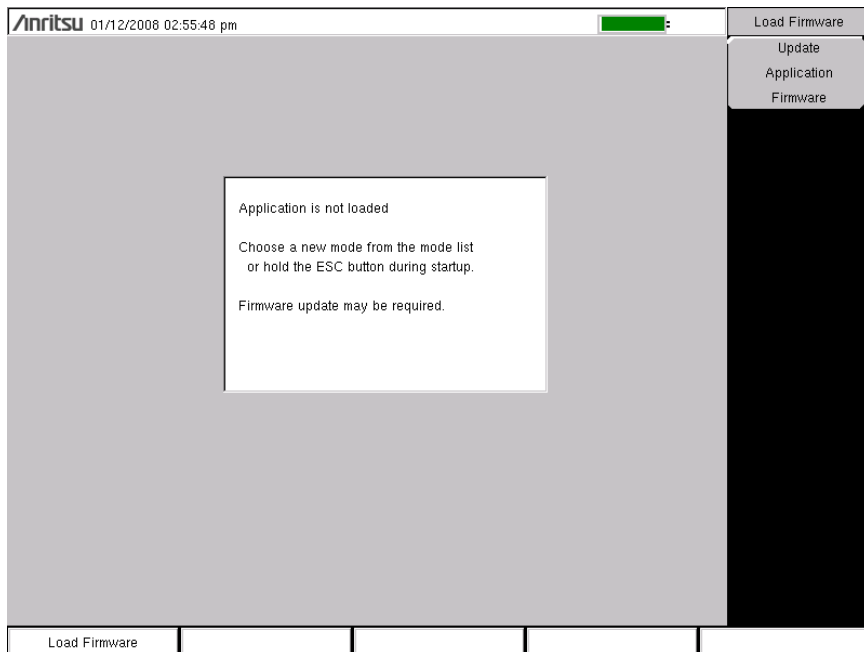

Figure 5-6. Firmware Main Menu
2. Press the follow key sequence: **Shift** > **System** (8) > System Options > Reset > Update Firmware. The Load Firmware main menu key is displayed (Figure 5-6).